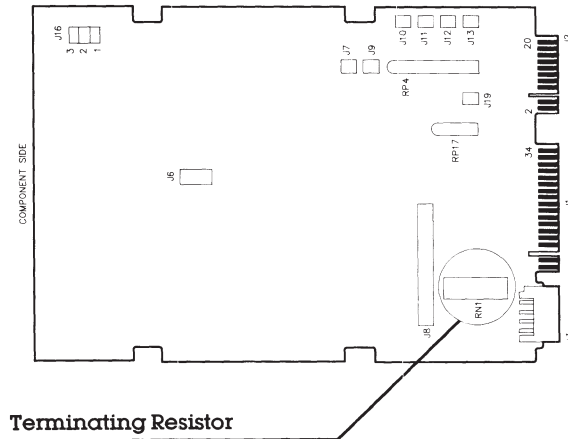

Figure 7-53. Locating and Removing the Terminating Resistor.
2. Remove the terminating resistor on the fixed disk drive using needle-nosed pliers (Figure 7-53).